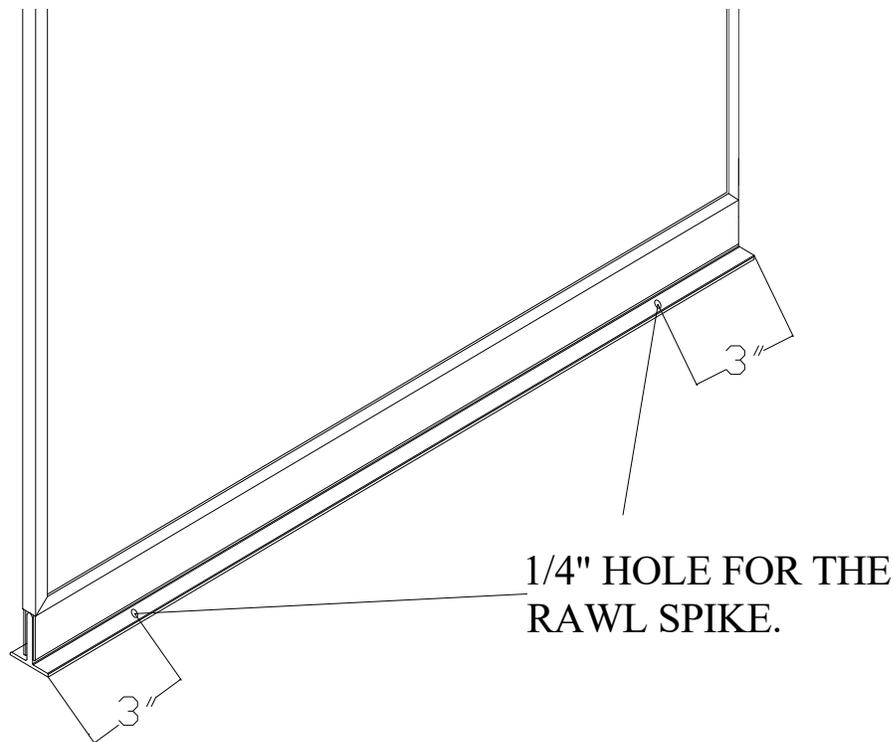

Figure 7.
5. Using the 5/16" drill bit, pre-drill the "Sanislope T's" for the outside division panels only, as shown in Figure 7. These holes will be used later to anchor the system to the floor.